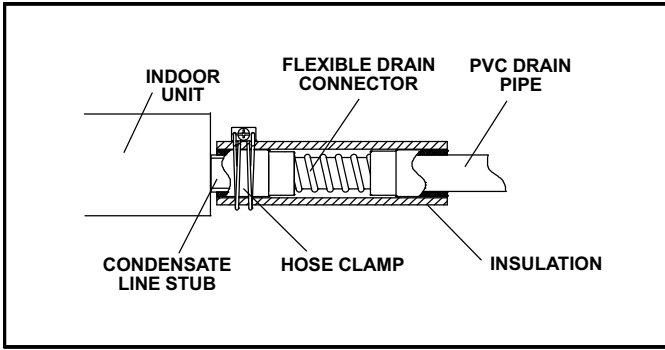

Figure 8. Condensate Drain Connection
- 1 - Use the provided hose clamp to secure the provided flexible condensate drain connector and insulating sleeve to the drain line stub on the side of the indoor unit. See figure 8.